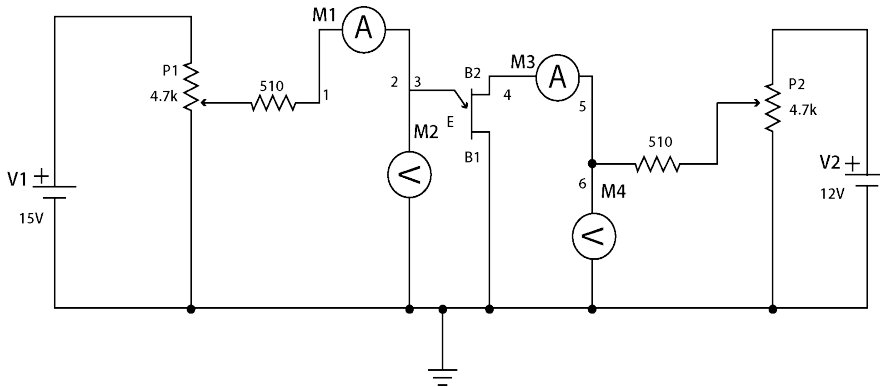

Figure 3
1. Connect the circuit as shown in Figure 3 using patch cords.